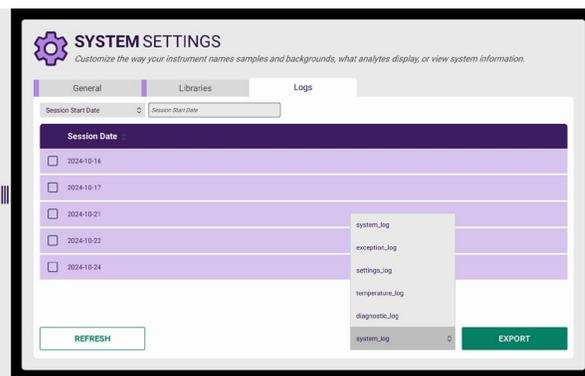

Figure 24. Logs available for export
18. Under the “Logs” tab in System Settings, the User will be able to export (Fig. 24):